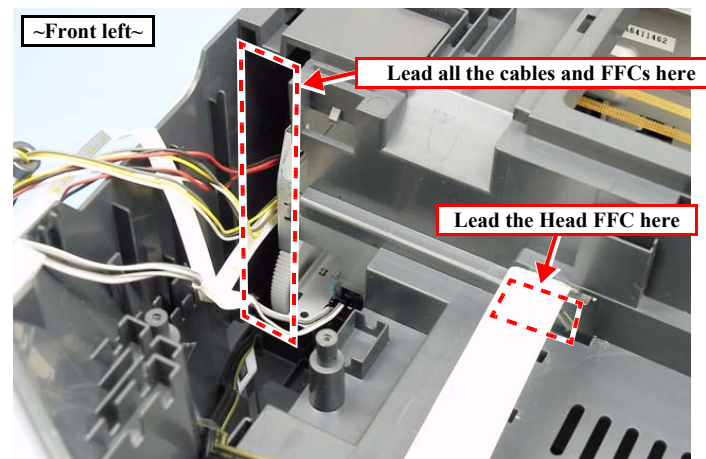

Figure 4-29. Leading Connector cables and FFCs
3. Lead all the connector cables and FFCs through the space and install the Middle Housing on the printer. (Fig. 4-29)